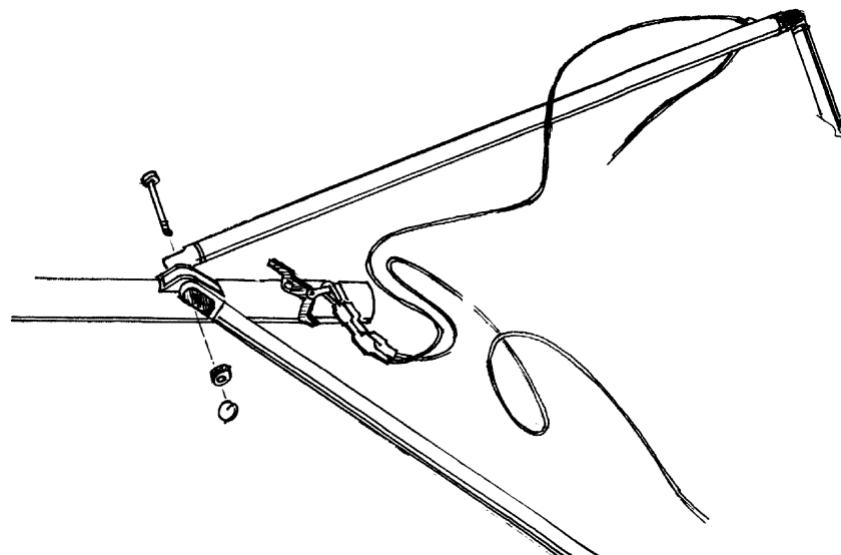

Fig. 4
2.1.5. Lay the N1 keel tube with N1 leading edge tubes so that the channel which secures the control bar is above. Attach the uprights to the channel using the bolt which is put through the channel and through the tops of the downtubes and fix them with the nut and the safety ring (Fig. 4).